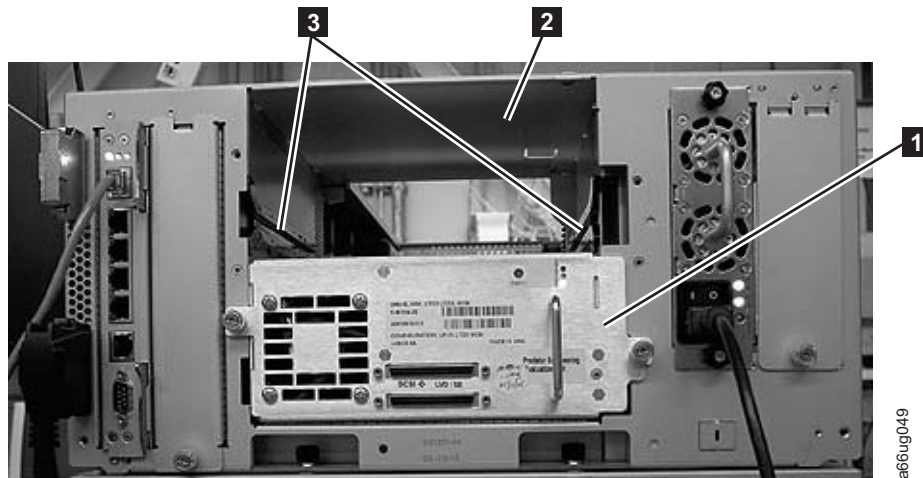

Figure 4-20. Guide rails and guide slots inside a drive slot
1. Align the drive sled with the guide rails and guide slots along the tracks ( **3** in Figure 4-20).